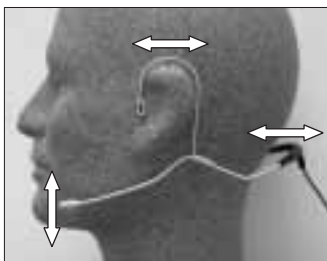

Fig. 3: Microphone position on the head.
1. Put the microphone on as shown in fig. 3.
Refer to fig. 3.